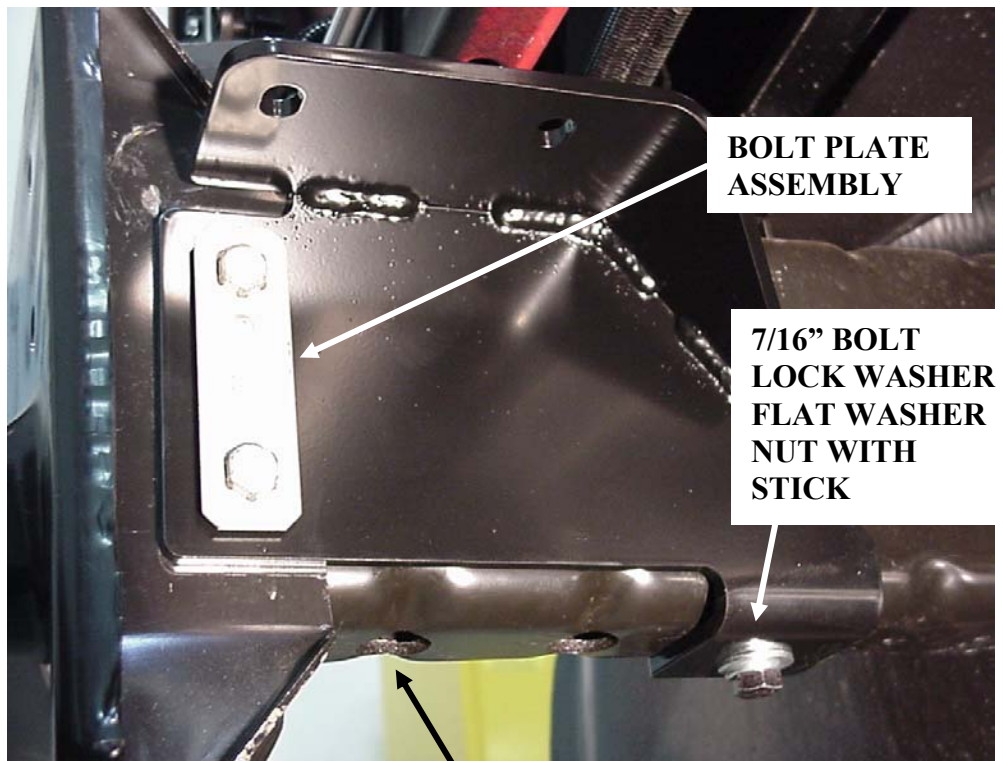

Figure 10
8. Install the frame extensions (passenger side shown), **Figure 10**. Tighten fasteners firmly but do not torque at this time, as kit may need adjusting. Install bolt plate assembly so the plate is toward the inside of frame (12mm nut out side of frame). Install 7/16" fasteners up through the frame extension into the frame and attach to the nut with stick, which is inserted up through the forward most hole in frame, **Figure 10**.